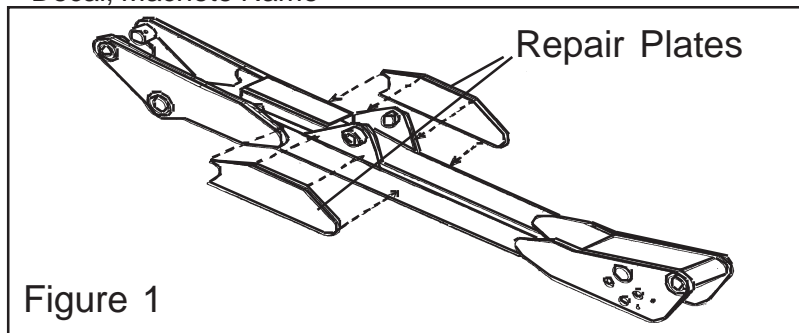

Figure 1
5. Clamp correct plates to each side of the dipper arm under head tilt cyl. mount (See Figure 1).